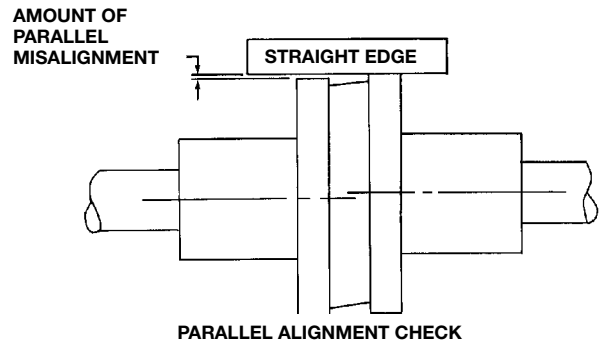

FIGURE 7A
2. At four points 90° apart (**DO NOT ROTATE COUPLER**), measure the parallel coupler misalignment by laying a straight edge across one coupler half and measuring the gap between the straight edge and opposite coupler half. Up to a $\frac{1}{64}$ " gap is permissible. Refer to figure 7A.